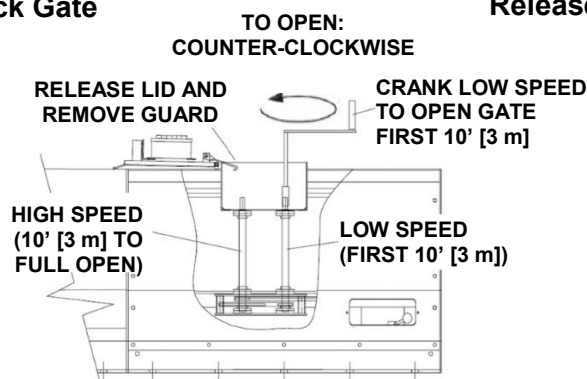

Figure 28
3) Crank the gate open (Figure 28).